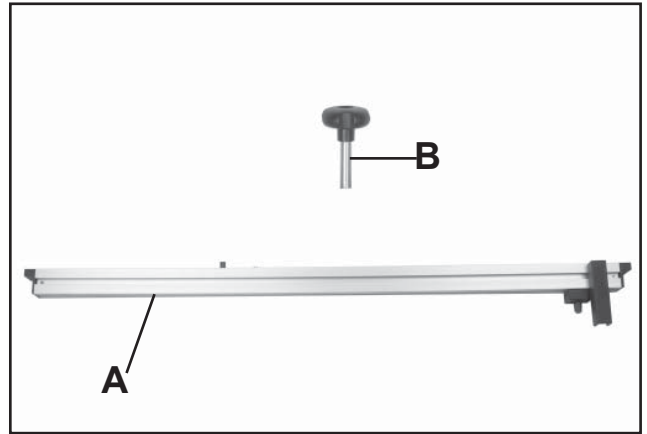

Figure 13
1. Locate the miter fence (A, Fig. 13) and miter fence locking knob (B, Fig. 13) as shown.